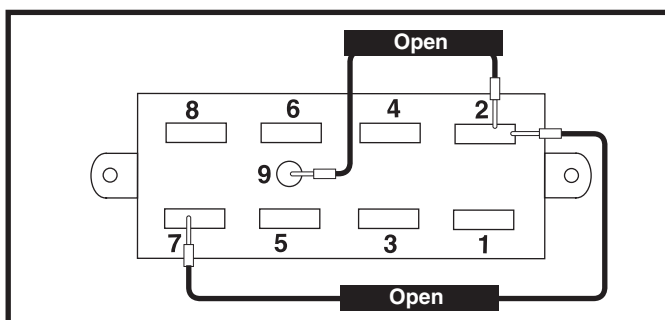

Figure 35. Connector 2a
2. Measure resistance across pin 2 and pin 9 and across pin 2 and pin 7 on connector 2a. **See figure 35.**
- *If your multimeter indicates an open on either test, then replace the VSI controller (1) and retest the system.*